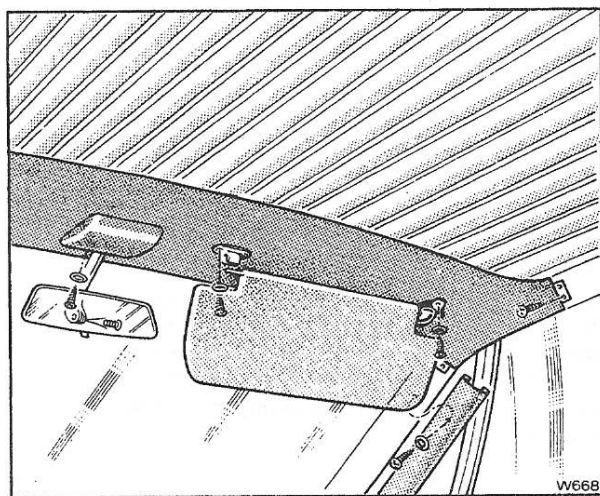

Fig. S140 Windscreen interior trim (Camargue)
4. Pull each sun visor spindle from the slots in the inner retaining brackets (see Fig. S140).
6. Remove the inner retaining brackets by releasing the screws and cup washers securing the brackets to the header trim panel (see Fig. S140).